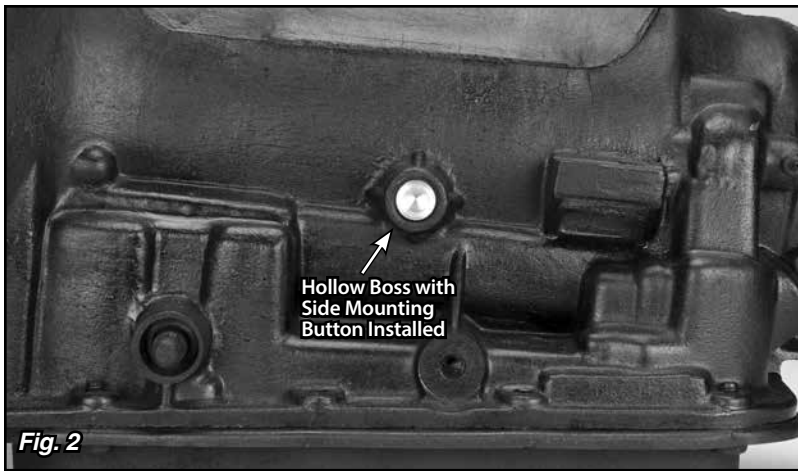

Fig. 2
Step 2: In the Lokar Shifter Kit you are supplied with two aluminum side mounting buttons approximately 5/8" in diameter. Your transmission has two round, hollow bosses cast into the case, one on the driver's side and one on the passenger's side. Clean any paint or debris out of these bosses, and install the side mounting buttons into the bosses with the flat side in toward the transmission case. **Fig. 2**